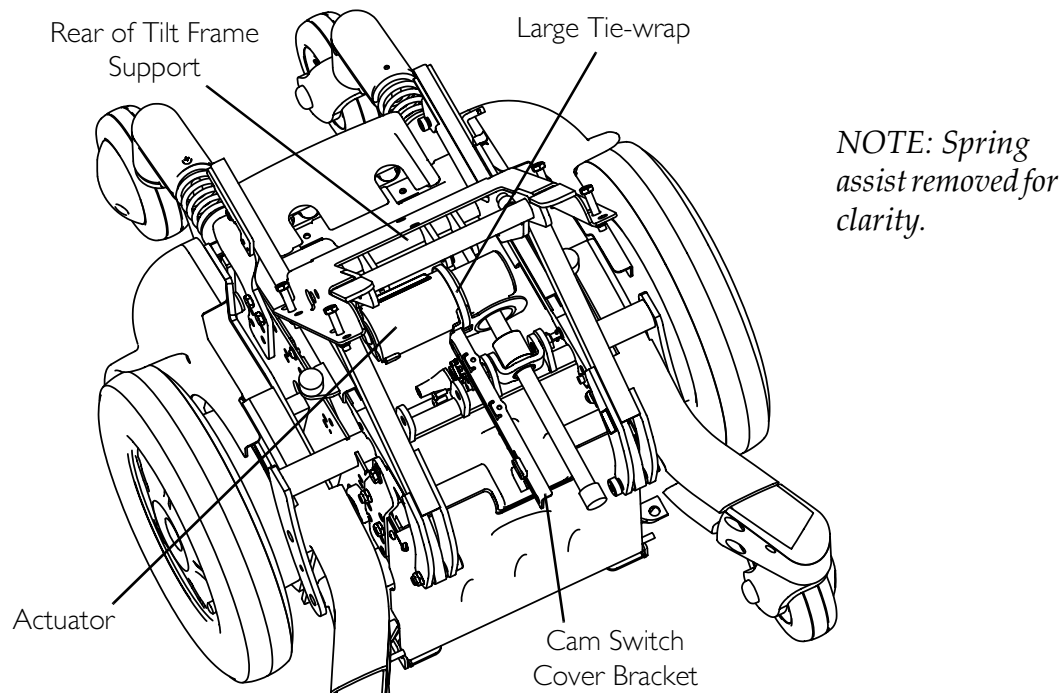

FIGURE 10.5 Preparing to Replace the Tilt Actuator / Preparing the Actuator for Use
NOTE: For this procedure, refer to FIGURE 10.5 on page 110.
4. Tie-wrap the cam switch cover to the actuator using the large tie-wrap as shown in FIGURE 10.5.